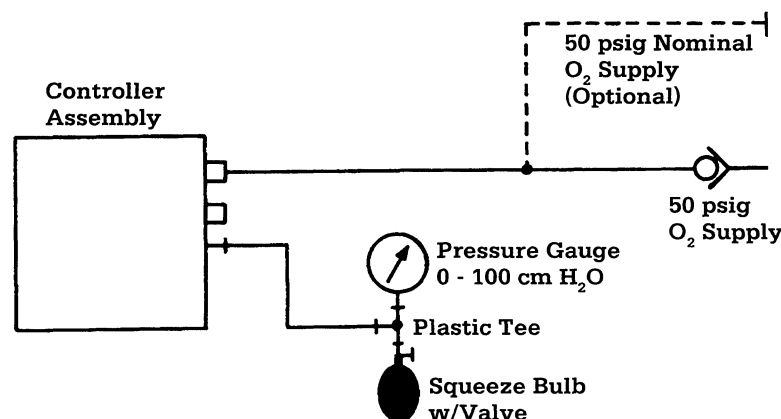

Figure 3-10
- Connect the test equipment to the controller assembly as shown in Figure 3-10.